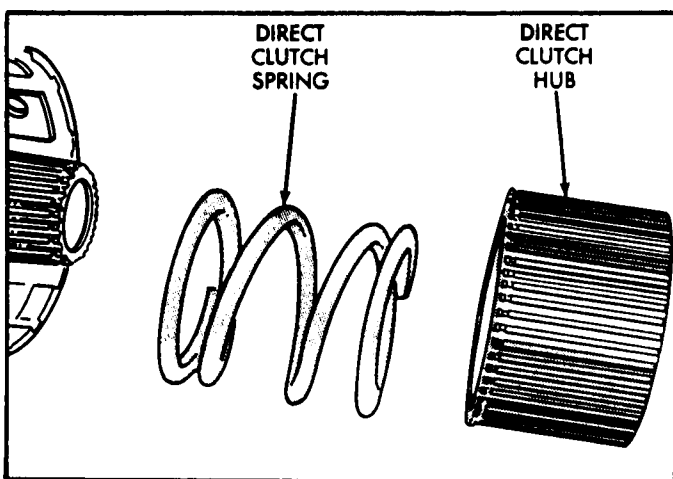

Figure 15
22. Remove the direct clutch hub and spring as shown in Figure 15.